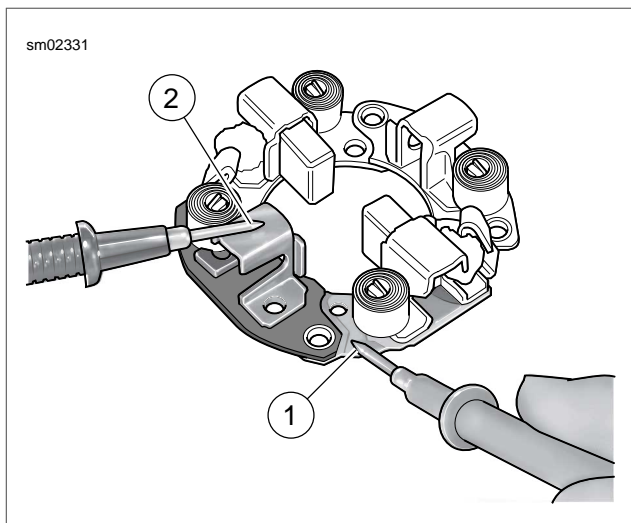

Figure 5-8. Brush Holder Insulation Test
5. See Figure 5-8. Test the BRUSH HOLDER INSULATION with an ohmmeter or continuity tester.